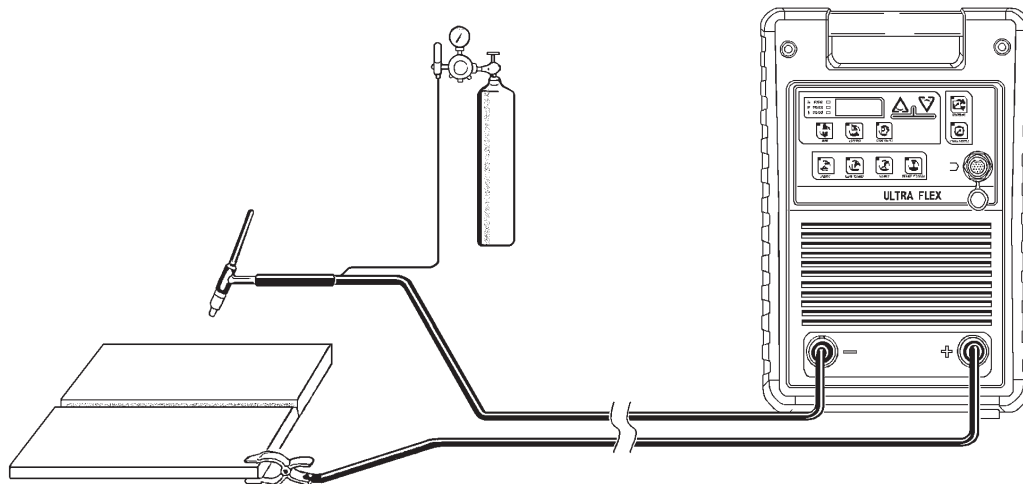

Figure 5-2
(See Figure 5-2)
1. Connect the work lead and torch lead to the power source. Figure 5-2 shows typical connections for DCEN (straight polarity). This is the normal connection for TIG welding.